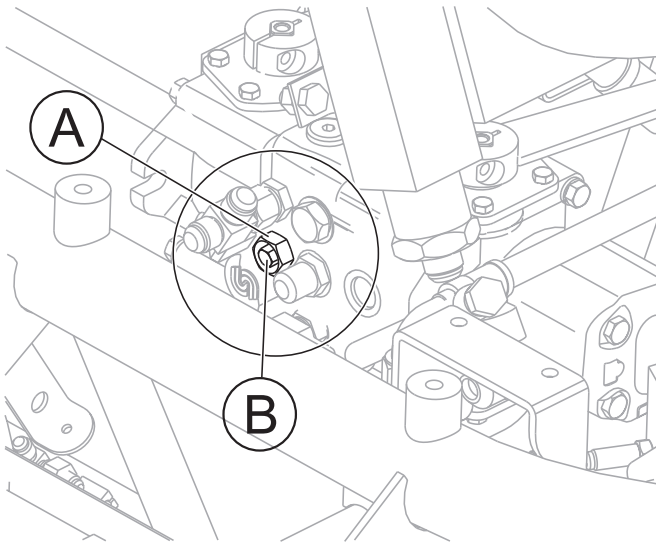

Figure 5. Preliminary Charge Pressure Adjustment
1. Loosen 1-1/16" jam nut on charge relief valve (Item A, Figure 5).
2. Use a 1/2" socket to adjust the small hex nut within the larger hex jam nut (Item B, Figure 5).
3. Rotate small hex nut (Item B, Figure 5) clockwise until bottomed out. **DO NOT** overtighten.